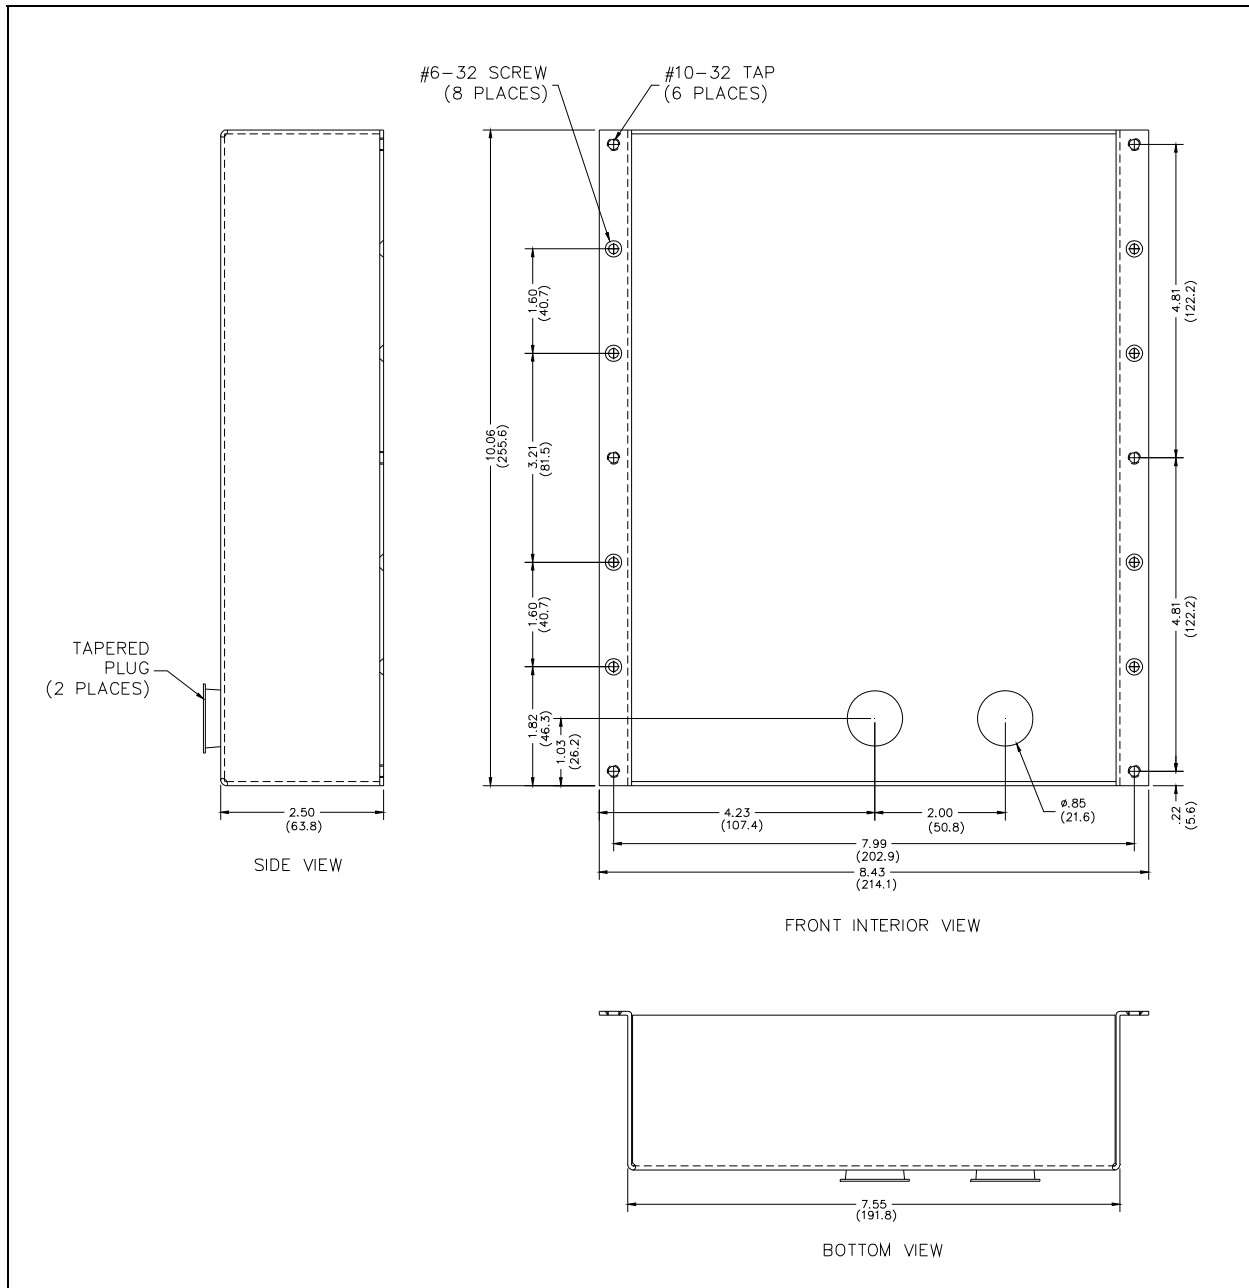

Figure 11. Model 276-005 Mounting Details
1. When mounting in a GAI-Tronics Model 234 Series Stanchion or for flush-mount installations, the supplied back box must be used to mount the Model 276-005 Telephone. Mount the back box to the structure using the appropriate hardware. Refer to Figure 11 cutout dimensions.